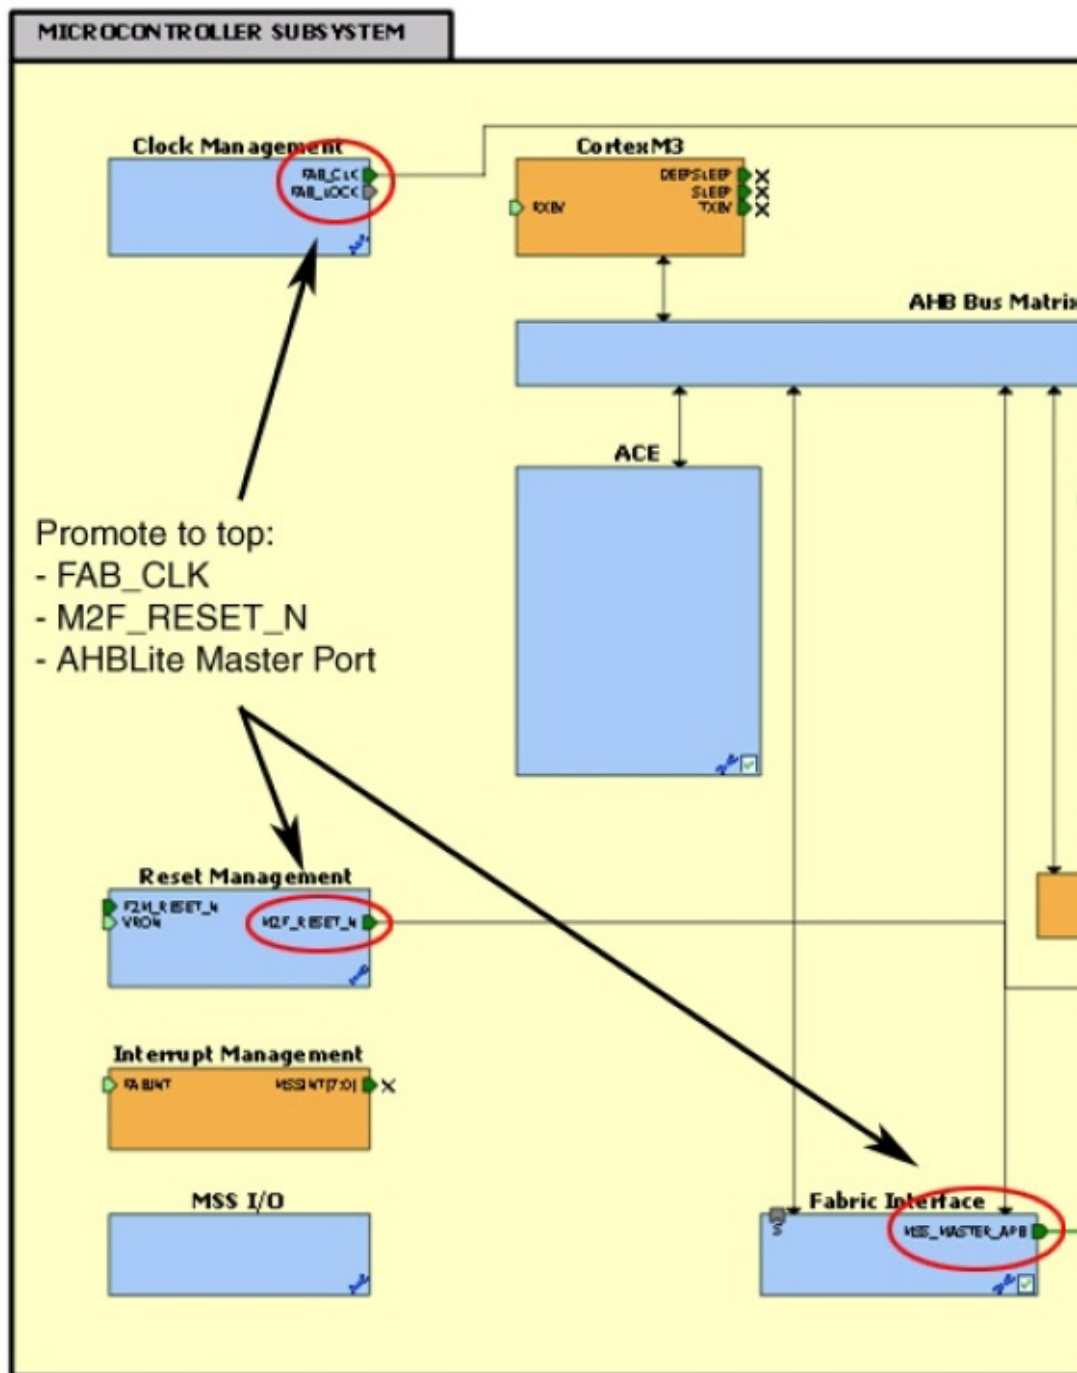

Figure 1-3 · Promote FAB_CLK, M2F_RESET_N and APB3 Master Port
Step 3. Promote the Fabric Interface AHBLite Bus Interface (BIF) master port (as shown in Figure 1-3).
Step 4. Promote FAB_CLK to make it a port (as shown in Figure 1-3).